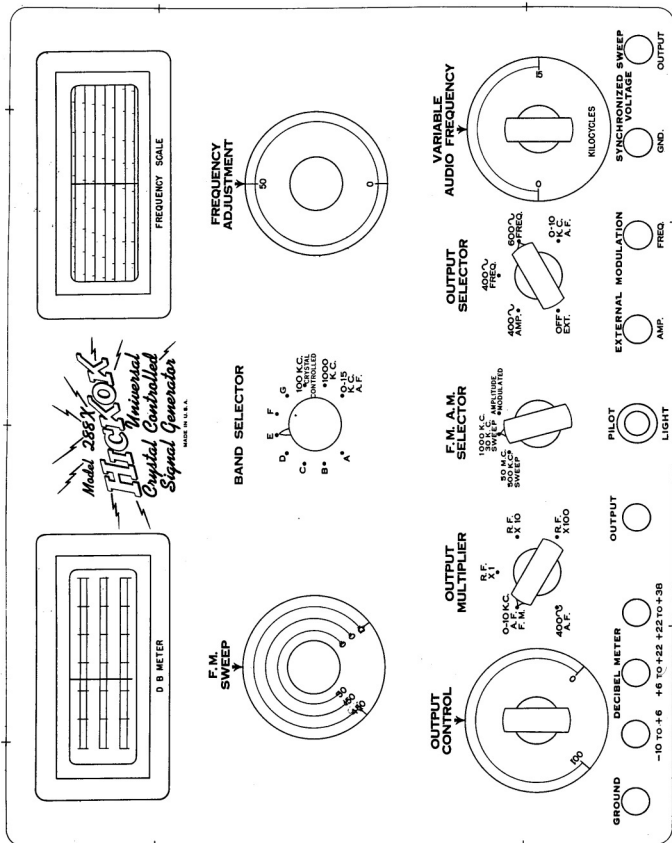

Figure 3.1 - Panel View, Model 288X
a. The location of the controls of the Model 288X is shown in Figure 3.1 and a brief explanation of their function is given in subsequent paragraphs